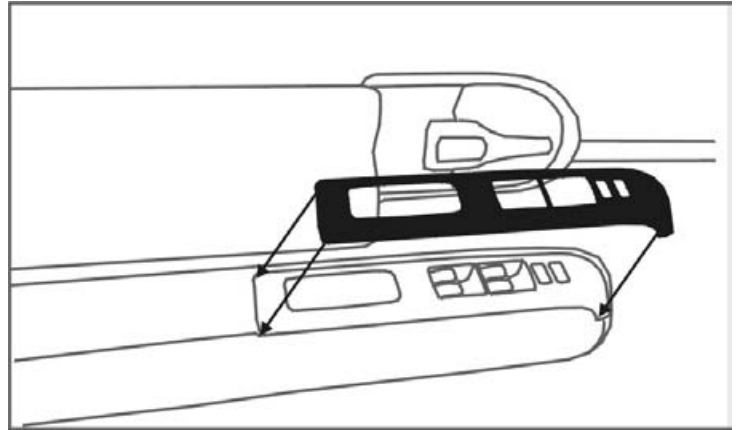

Fig. 4-1
- ⚠ (1) Align part uniformly to edge of factory component. (Fig. 4-1)
- (2) Gently touch part into position.
- (3) Edge of appliqué should be flush to edge of factory component, +/- 1.0mm.
- (4) Once positioned, press part firmly into place by applying finger pressure. Pressure is required for adequate bond to factory component.